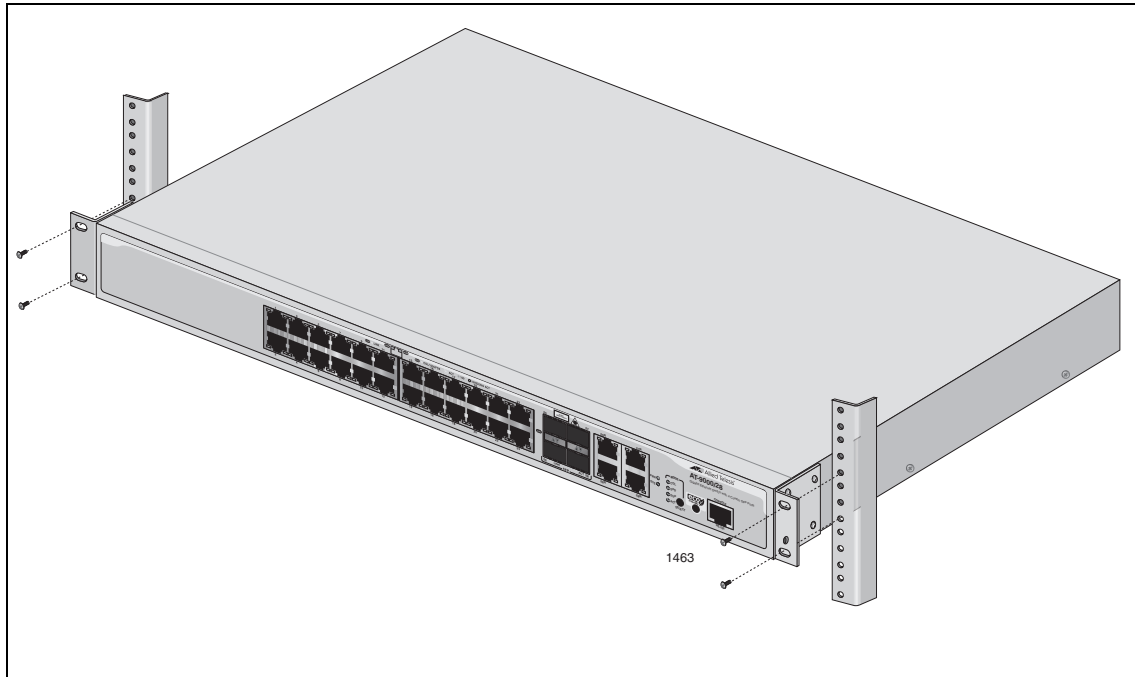

Figure 10. Mounting the Switch in a Rack
6. Mount the switch in the 19-inch rack using standard screws (not provided), as shown in Figure 10.